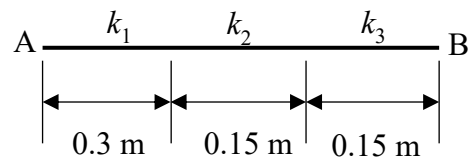

Fig. 1 Composite slab
3. Consider a composite slab (1-D), as shown in Fig. 1 whose right end (B) has constant temperature 293 K and left end (A) is exposed to a hot fluid of temperature 1073 K. The heat transfer coefficient is 25 W/m² K. The thermal conductivities are $k_1 = 20$ W/m K, $k_2 = 1.5$ W/m K, $k_3 = 50$ W/m K. Calculate the steady-state temperature distribution inside the slab. You may consider choosing a grid size of 0.03 m (this is just a suggestion and you may opt for different grid size). Compare the results with the analytical solution by